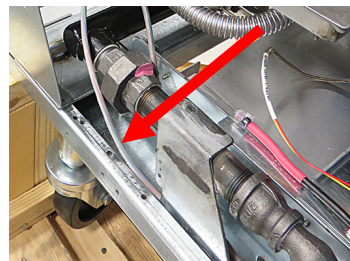

Figure 25
29. Route the other end of the new cable assembly along the frame chase way to the rear of the fryer. Use zip ties to secure the wire(see Figure 25).